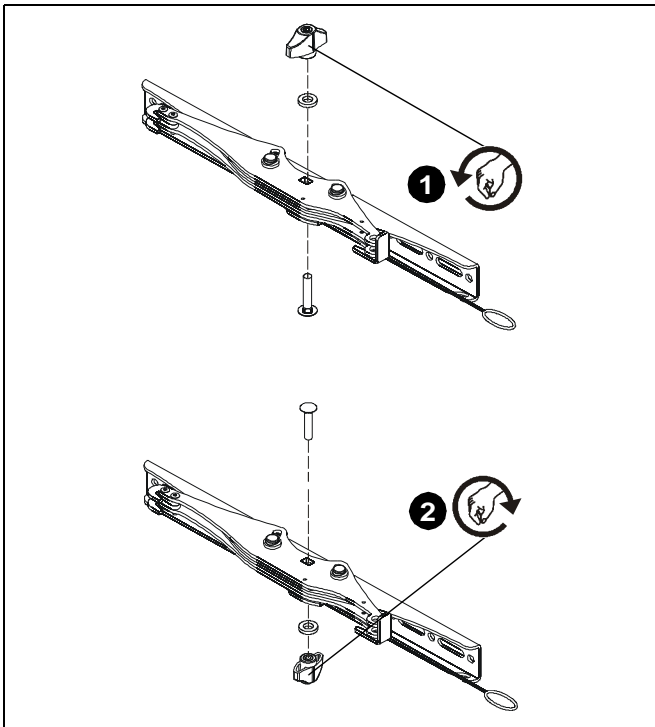

Figure 11
1. Remove the tilt tension knob, washer and screw from interface bracket. (See Figure 11)
2. Replace the knob, washer and screw in the opposite order. (See Figure 11)